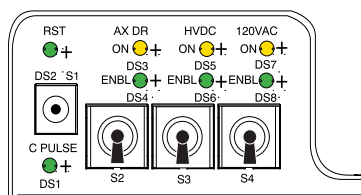

Figure A-3 STC Power Switches
CAUTION Before you remove the top covers, always ensure that the three (3) power switches have been turned off (see Figure A-3).
- 2.) Remove the gantry side and top covers, if you have not already done so. Refer to Section 1.0 in this chapter. Ensure that the three (3) power switches have been turned off (see Figure A-3).